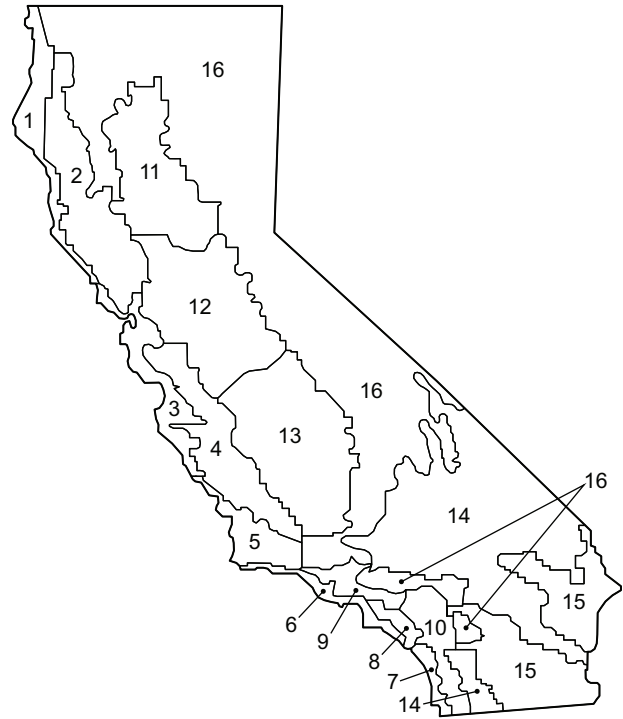

Fig. 29 — California Title 24 Zones
- b. Refer to Fig. 29 for map of California Title 24 zones